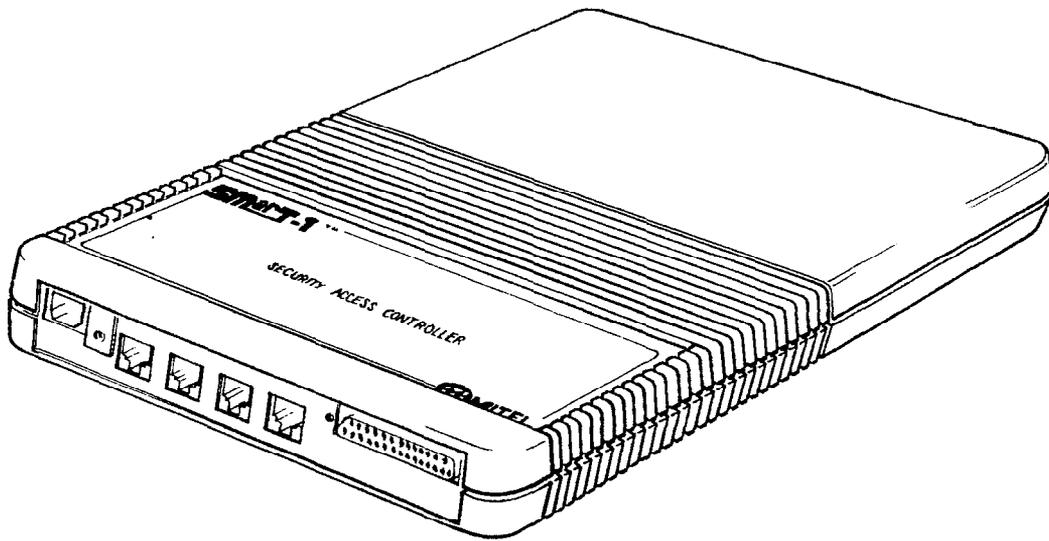

Figure 2-1, SMaRT-1™ Security Access Controller
2.03 The Controller (see Figure 2-1) prevents unauthorized access to a data base that is typically gained through "hackers" utilizing dial-up telephone circuits and randomly searching for authorization codes. The SAC security features include the disconnection of invalid access attempts and callback technology to protect the integrity of a network.